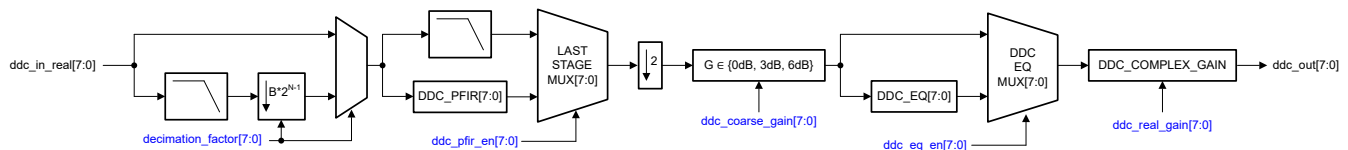

Figure 7-23. Real Decimation Signal Chain (decimation factors that are powers of 2 (B = 1))
- **Real decimation:** The real input is low pass filtered and the filter output is down sampled by the decimation factor (M). The output of the DDC block in this mode is a real signal and detailed DDC chain is shown in Figure 7-23.